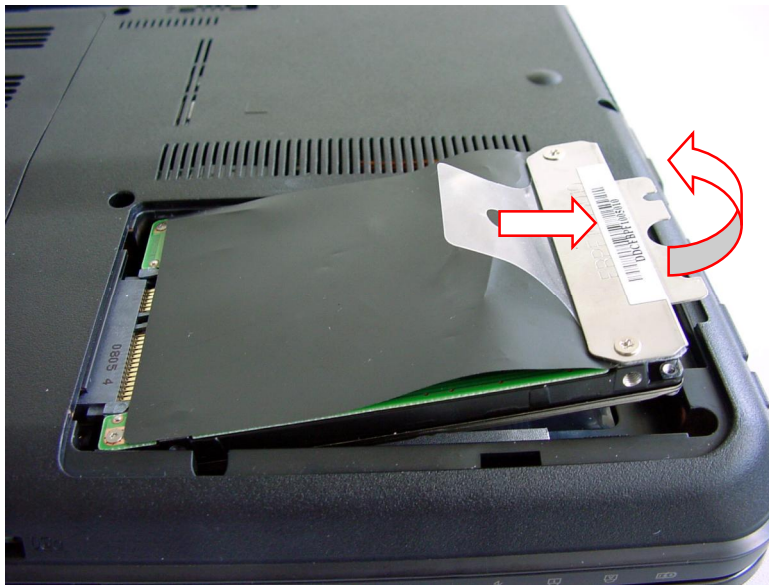

Fig. 8 Disconnecting and removing hard disk drive.
5. Take the drive out of its compartment as shown in Fig. 8.